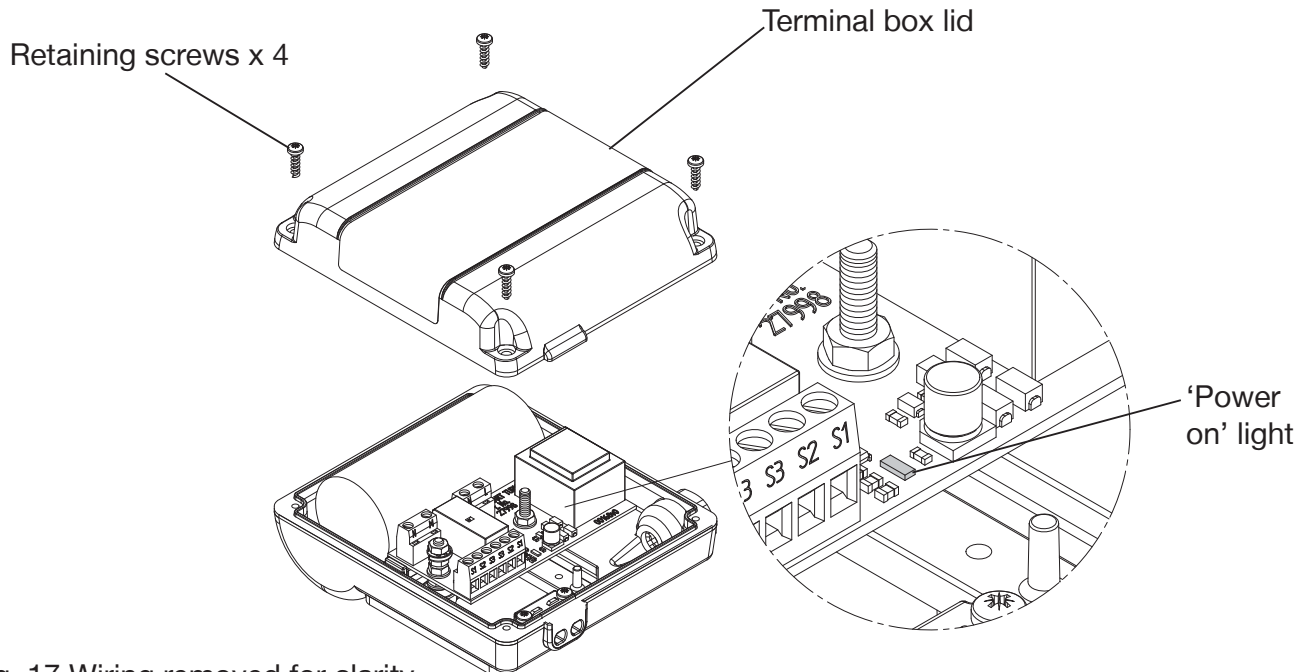

Fig. 17 Wiring removed for clarity
- Remove the four screws retaining the terminal box lid (Fig. 17).